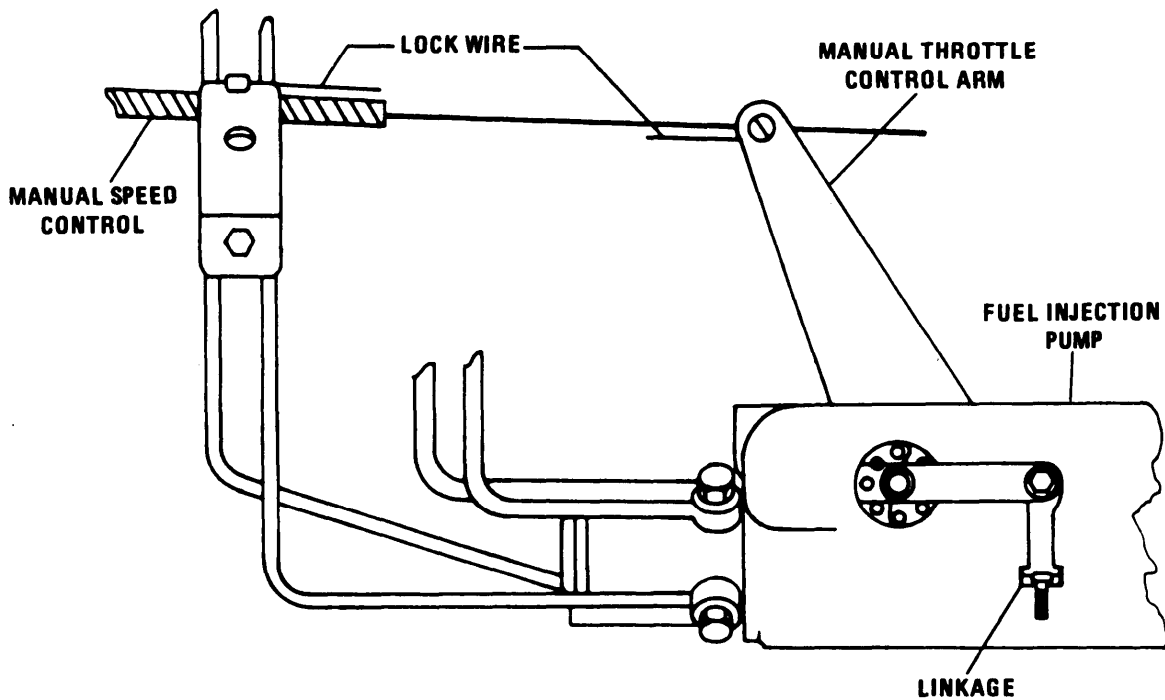

Figure 4-28. Approximate Position Of Controls For Connecting Actuator
- (a) Install governor control unit in test circuit as shown in figure 4-28.
- (6) Perform parallel winding test as follows:
(6) Position the printed circuit board and allow compound to cool.
(7) When compound has cooled and is substantially solid, install top cover and hardware.
i. Installation. Install governor control unit in reverse order of removal procedures. Refer to figure 4-28 for approximate position of controls when connecting linkage.